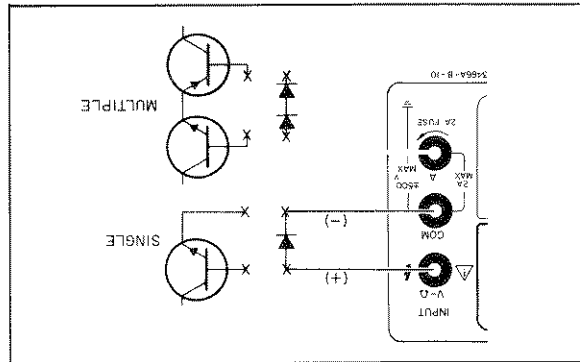

Figure 3-12. Diode Test.
- c. Connect test leads across the diode or transistor as shown in Figure 3-12.